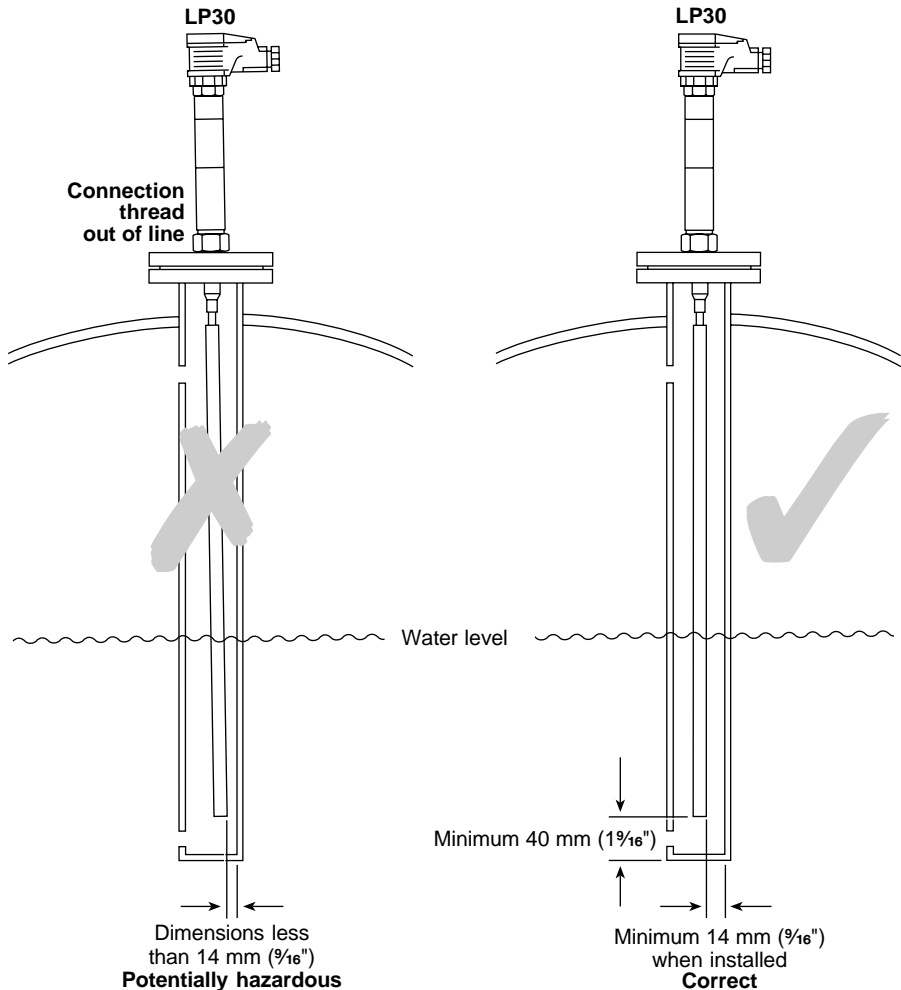

Fig. 10
When correctly carried out, the test will ensure that the final probe tip position is at least 14 mm ($\frac{9}{16}$ ") from the protection tube. See Fig. 10.
- Protection tube not of large enough bore and/or not deep enough (the tube should be at least 40 mm ($1\frac{1}{8}$ ") deeper internally than the end of the probe, see Fig. 10).